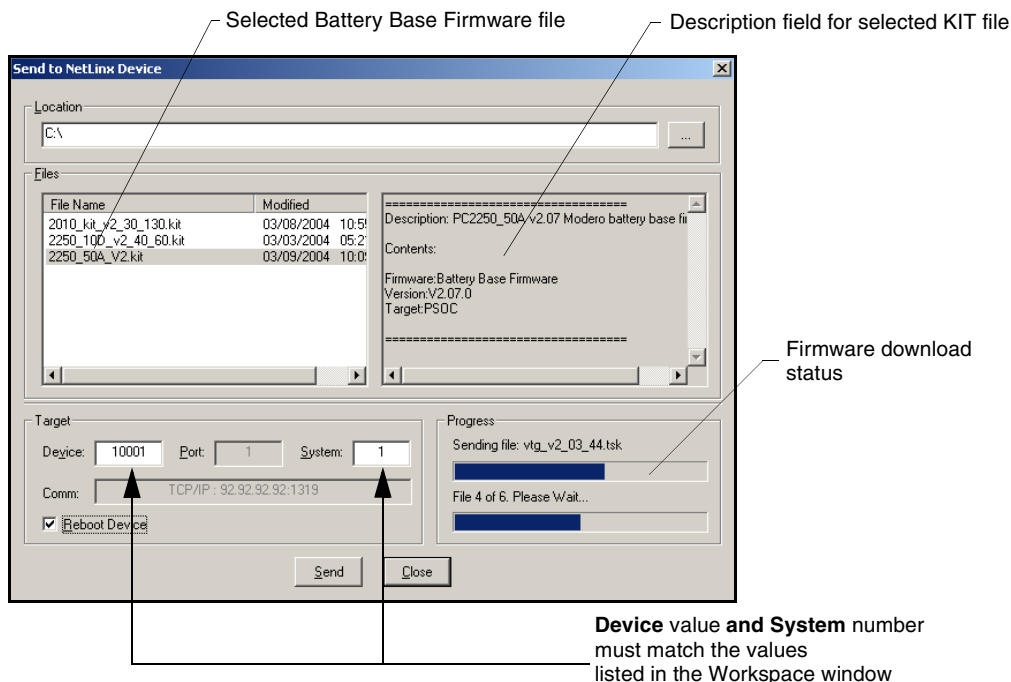

FIG. 101 Send to NetLink Device dialog (showing NXA-BASE/B firmware update via IP)
6. From within Studio, select **Tools > Firmware Transfers > Send to NetLinx Device** from the Main menu to open the Send to NetLinx Device dialog (FIG. 101). Verify the panel's System and Device number values match those values listed within the System folder in the **OnLine Tree** tab of the Workspace window.
7. Select the battery base's KIT file (*ending in VXX.kit*) from the **Files** section (FIG. 101).
10. Click **Send** to begin the transfer. The file transfer progress is indicated on the bottom-right of the dialog (FIG. 101).